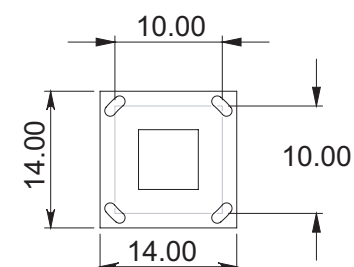

FIGURE 1
3. POUR FOUNDATION (24" DIA. x 36" DEPTH) INSERT (4)  $\phi$  3/4" x 24" ANCHOR BOLTS (PER FIGURE 1).
5. PLACE (4)  $\phi$  1.00" LEVELING NUTS AND WASHERS ON THE FOUR ANCHOR BOLTS TO PROVIDE A GAP BETWEEN THE FOUNDATION AND BASE PLATE OF THE POLE. (SEE DETAIL A).
6. POSITION THE POLE ONTO THE ANCHOR BOLTS AND SECURE IN PLACE WITH (4)  $\phi$  3/4" NUTS AND WASHERS, (SEE DETAIL A).